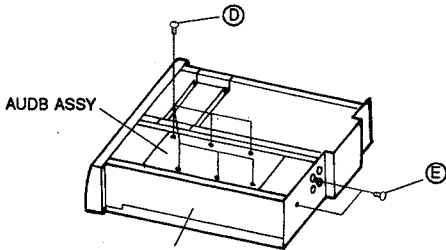

Fig. 2
4. Remove the 6 screws D that stabilize the AUDB ASSY. (Fig. 2)
5. Remove the 2 screws E on the rear side. (Fig. 2)